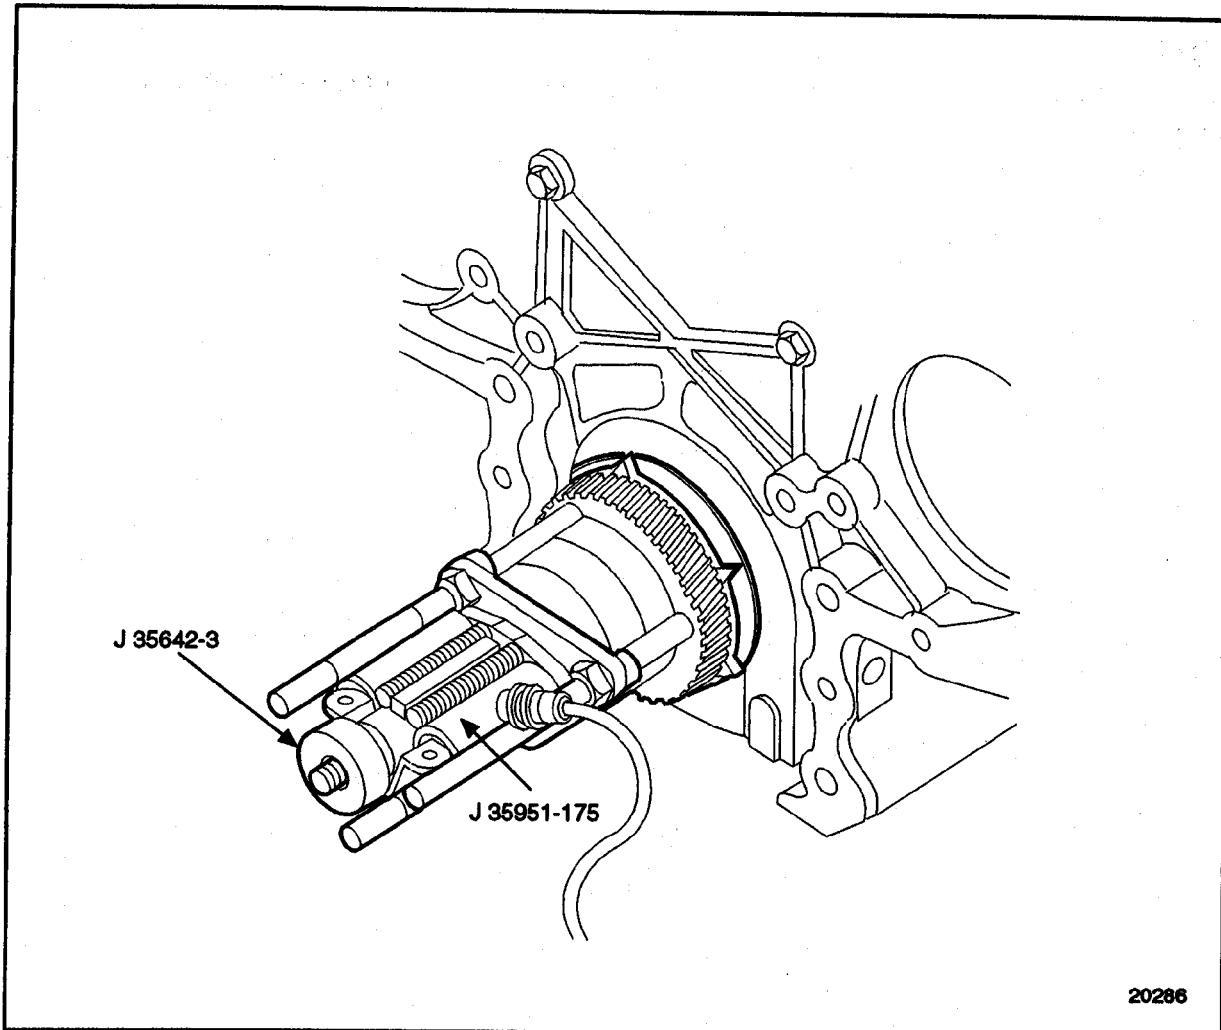

Figure 1-397 Crankshaft Timing Gear Installation Tools
8. Install the three retaining nuts to the puller legs. Thread the nuts past the first set of threads on the legs. Slide the nuts past the unthreaded portion of the shafts, and engage the second set of threads. Tighten but do not torque the retaining nuts. See Figure 1-397.
9. Install J 35951-175 to the base post rod. See Figure 1-397.